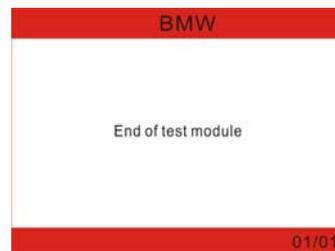

Figure 4-7
6. Press [] to confirm. If reset successful, Figure 4-7 appears and press [] to exit.